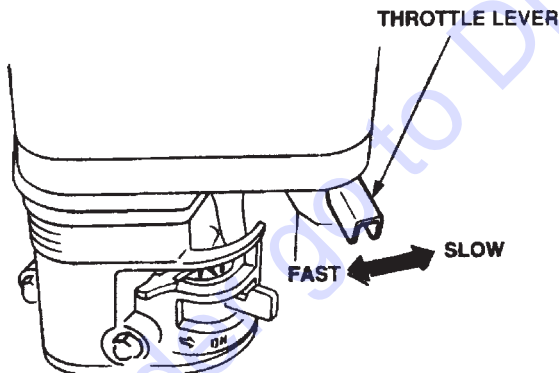

Figure 14. Throttle Lever (Run Position)
9. To begin troweling, move the throttle lever (Figure 14) toward the "**FAST**" position.
1. Move the throttle lever to the **IDLE** or **SLOW** position (Figure 14) and run the engine for three minutes at low speed.